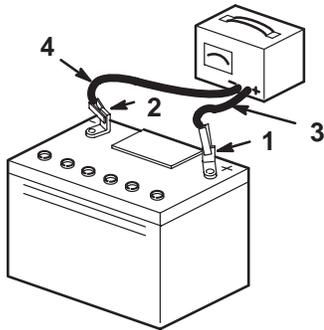

Figure 2
- Charge the battery for 10 to 15 minutes at 25 to 30 amps or 30 minutes at 4 to 6 amps (Fig. 2). **Do not overcharge the battery.**
- When the battery is fully charged, unplug the charger from the electrical outlet, then disconnect the charger leads from the battery posts (Fig. 2).